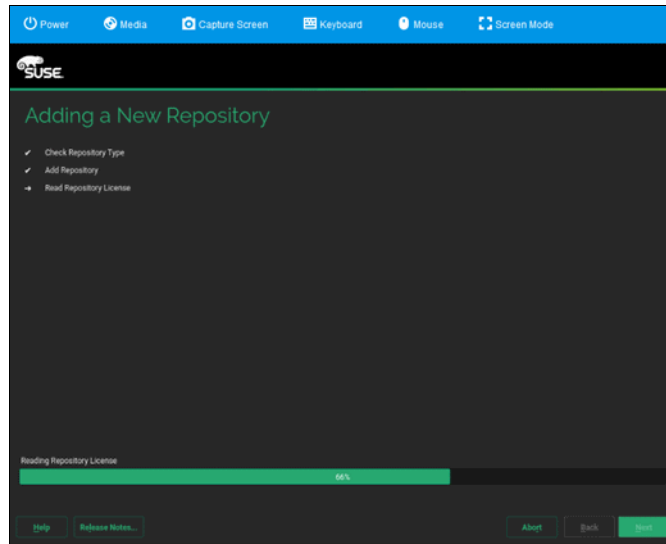

Figure 6-46 New repository being created
13. A new repository will be added as shown in Figure 6-46 on page 209. This repository is the ISO containing the updated storage drivers.